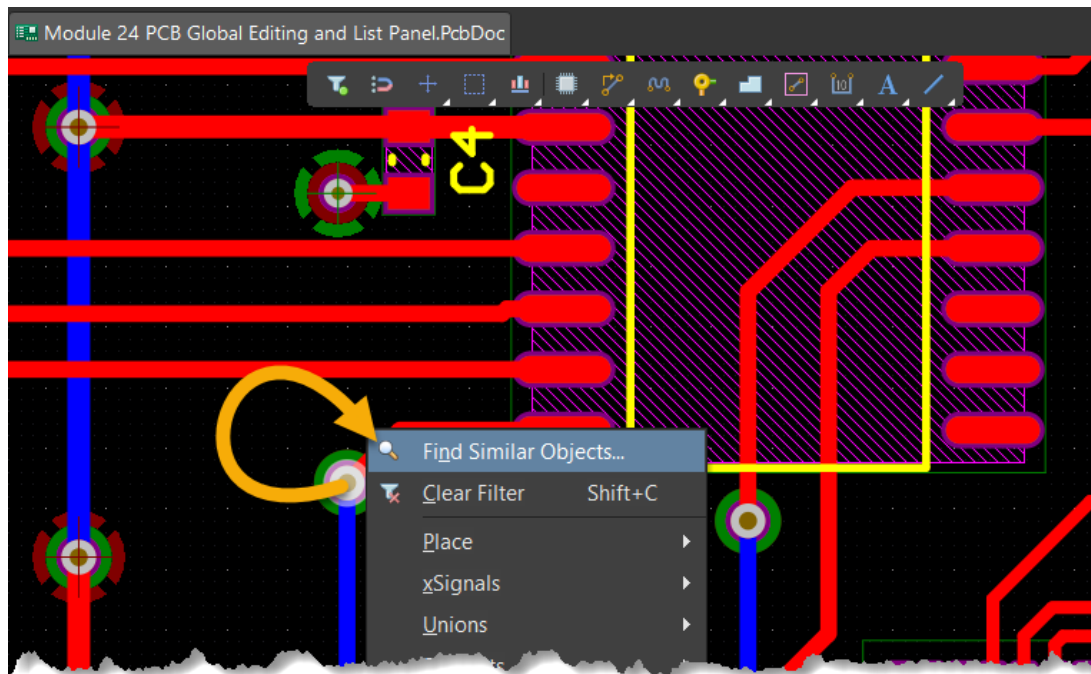

Figure 7. Right-click and select *Find Similar Objects*
28. Select the via located near U11-14 and right-click to *Find Similar Objects* as shown in Figure 7 below.